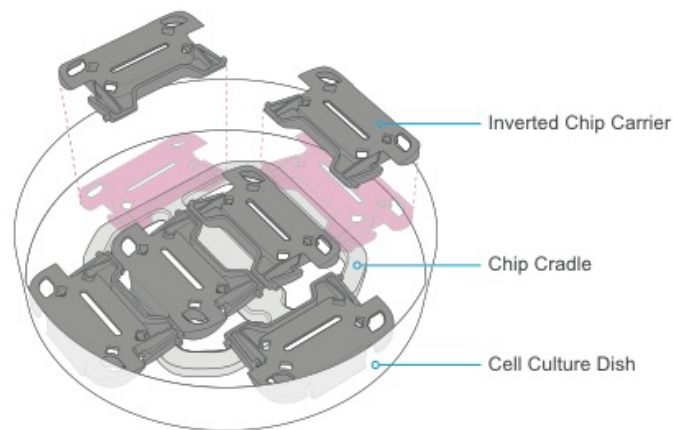

Figure 8: Inverting chips during endothelial attachment
2. After seeding, invert each chip and rest the edge of the chip carrier on the chip cradle. Note: Each chip cradle can support up to 6 chips inside a 150 mm cell culture dish (see Figure 8).